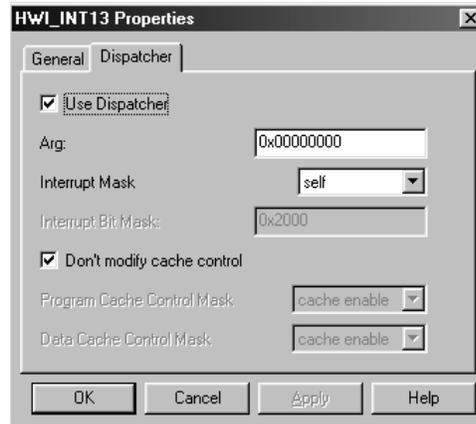

Figure 10. McBSP1Rcv\_ISR Dispatcher Tab
2. Select Dispatcher tab, and select options as shown in Figure 10. BIOS enables the interrupt and handles branching to and from the McBSP1Rcv\_ISR function.